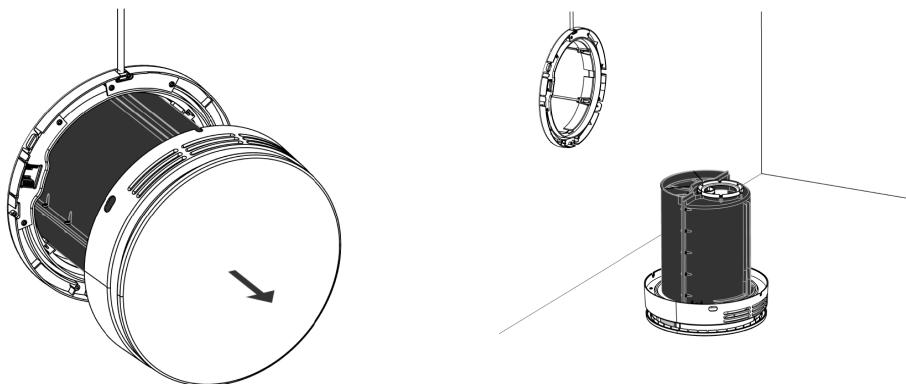

Figure 31 - Take the ventilation system out and place it down on the internal cover
4. Carefully pull the ventilation unit out of the wall and place it with the internal cover down on a level surface, e.g., a table or the floor, see Figure 31 below.